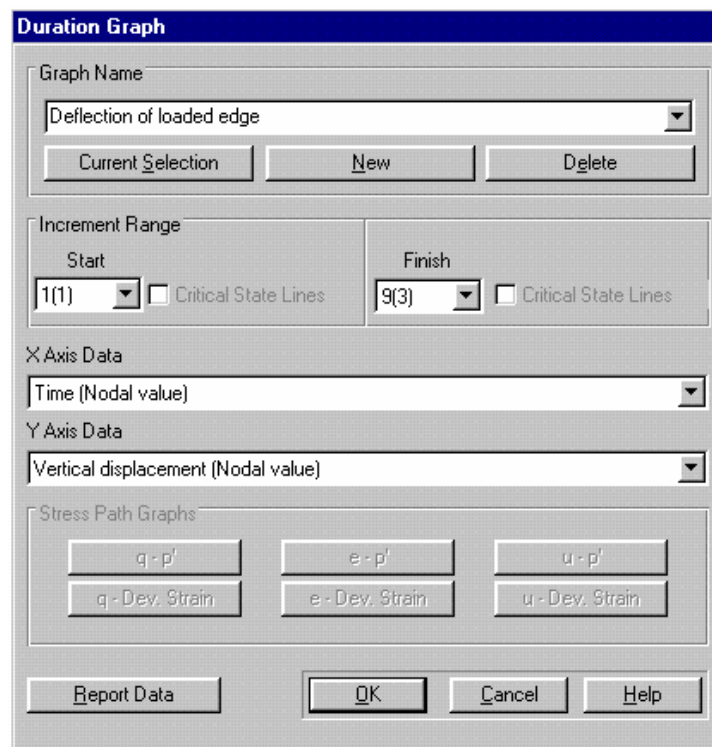

Figure 2-21: Duration Graph dialogue box
- Step 5** Select ‘Time’ as X Axis data and ‘Vertical displacement’ as Y Axis data. The Duration Graph dialogue box should now look similar to Figure 2-21.